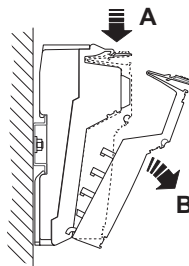
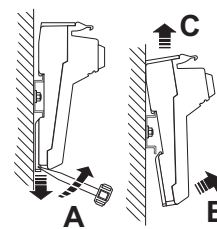

Figure 9-18 Removing a connector
Figure 9-19 Removing the base
- Lift the connector that is to be removed by pressing on the back connector shaft latching (Figure 9-18, A).
- Remove the connector (B).
- Insert a tool in the base latch and pull gently upwards (Figure 9-19, A). Pull the module out from the DIN rail (B, C).